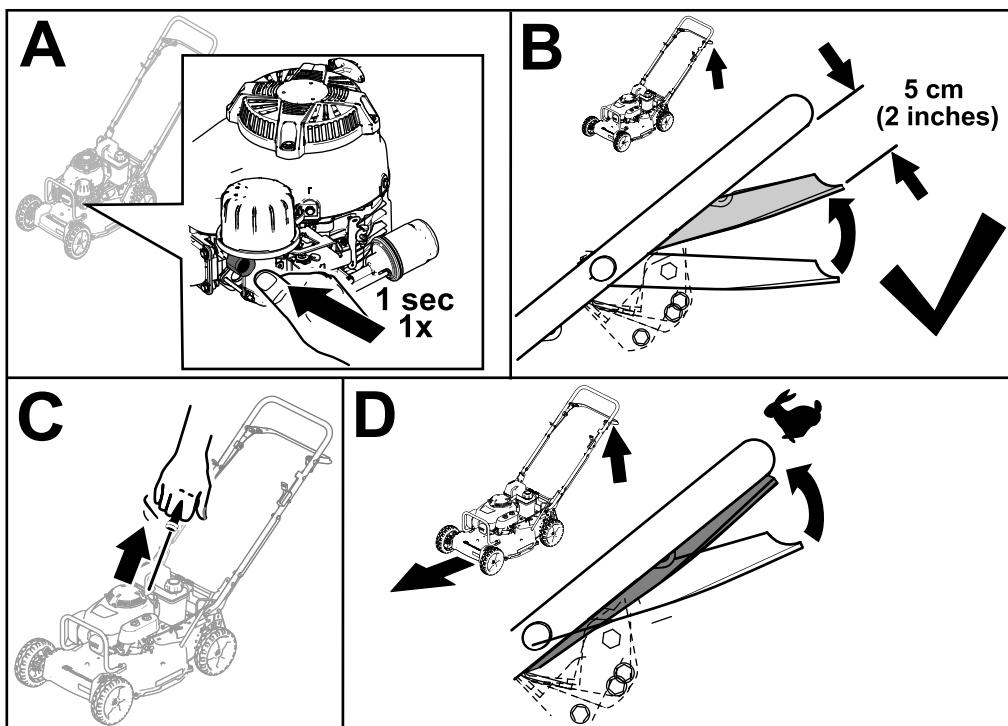

Figure 14
3. Firmly push and hold the primer bulb in for 1 second (A of Figure 14).
4. Hold the blade-control bar in the Run/Shift position, about 5 cm (2 inches) below the handle (B of Figure 14).
5. Pull the starter handle lightly until you feel resistance, pull it sharply, then allow it to return slowly to the rope guide on the handle (C of Figure 14).